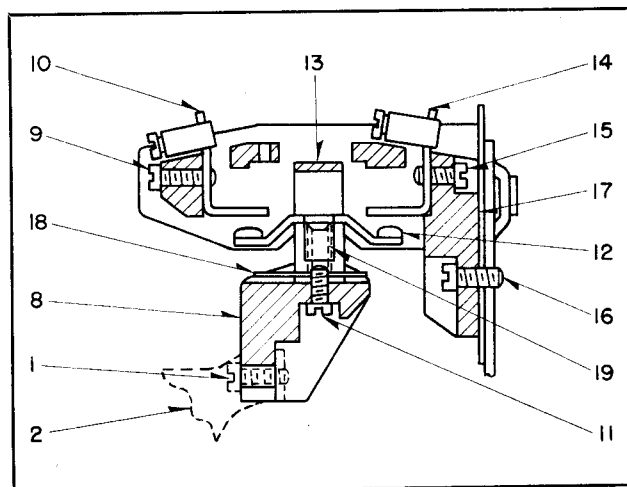
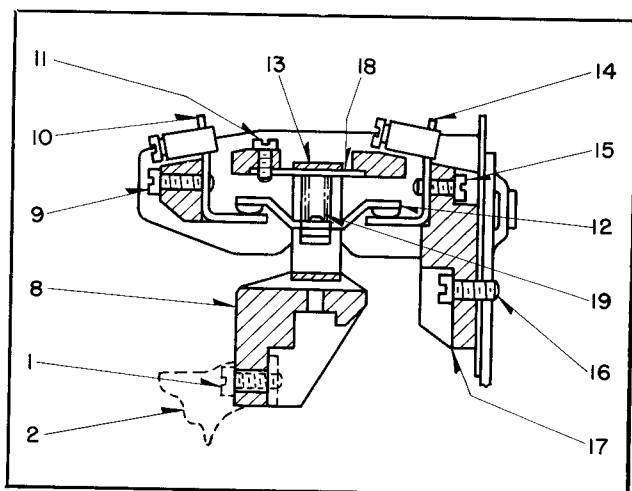

FIG. 2. Typical Normally Open Contact in De-Energized Position
FIG. 3. Typical Normally Closed Contact in De-Energized Position
Changing Contacts From N.O. To N.C. (Refer to FIGS. 2 and 3) — To change N.O. contact, FIG. 2, to N.C. position per FIG. 3, first remove crossbar mounting screws (1) and withdraw crossbar (8). Second, remove front stationary contact mounting screw (9) and front stationary contact (10). Third, remove contact saddle mounting screw (11); invert the complete moving contact assembly and secure it in place in the molded contact base per FIG. 3 using the same screw (11) as before. Replace the front stationary contact (10) and operate the contact manually a few times to make sure it is free. Replace the crossbar assembly (8) and screws (1).
Normally Open Contacts. (See FIG. 2) Inspection of N.O. contacts is accomplished by removing the two crossbar mounting screws (1), whereupon the crossbar (8), complete with the moving contacts, may be removed and all contacts are accessible.
Normally Closed Contacts. (See FIG. 3) Inspection of N.C. contacts is accomplished by first removing the crossbar mounting screws (1) and the molded crossbar (8) complete with any moving contacts that may be attached thereto. Next, the front stationary contact (10) and its mounting screw (9) are removed and screw (11) is removed, allowing the complete moving contact assembly to be taken out for inspection.